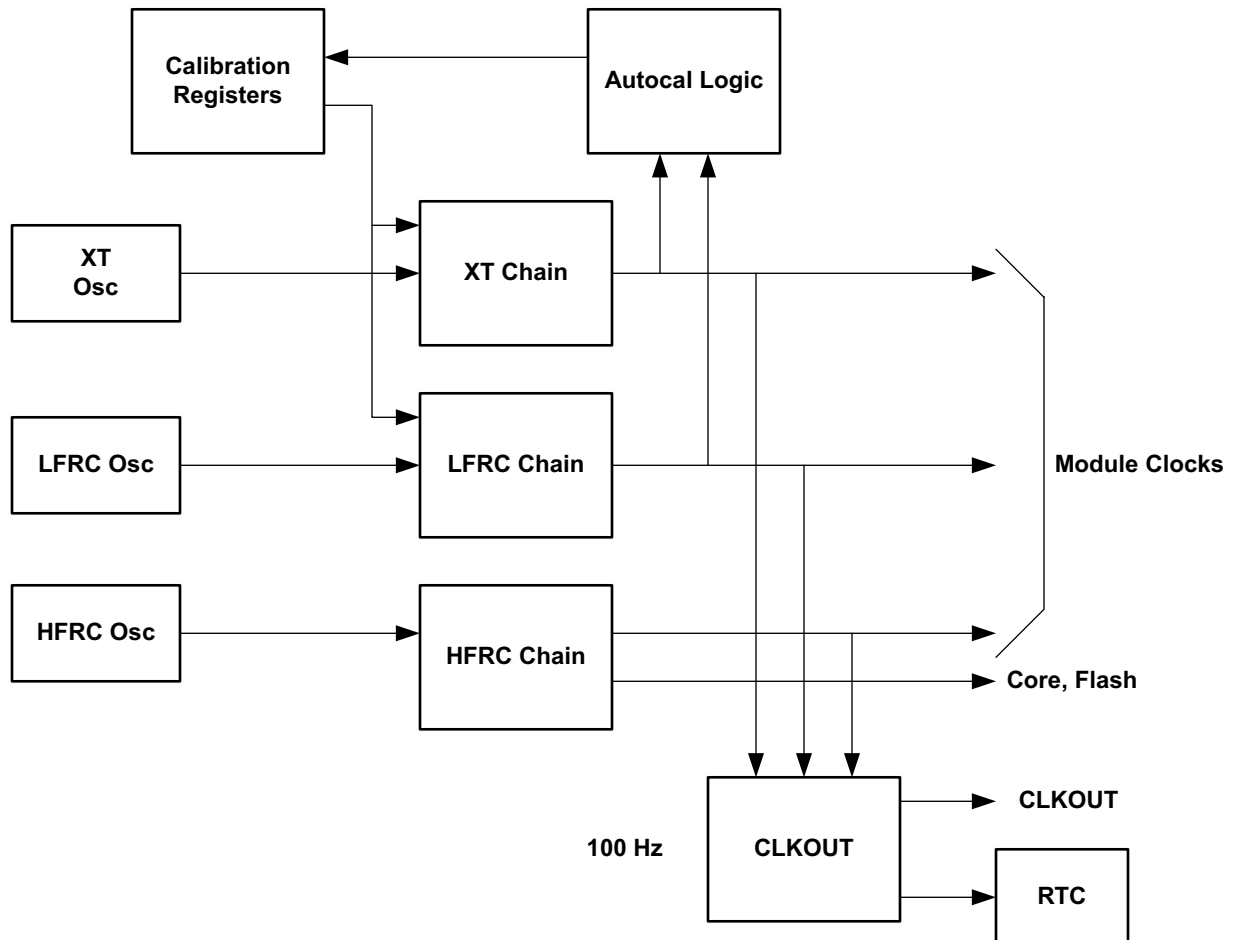

Figure 51. Block diagram for the Clock Generator and Real Time Clock Module
The Clock Generator Module, shown in Figure 51, supplies all clocks required by the Apollo2 MCU. These clocks are derived from one of three fundamental clock sources: a high precision crystal controlled oscillator (XT), a low power 1 kHz RC oscillator (LFRC) and a high frequency 48 MHz oscillator (HFRC).